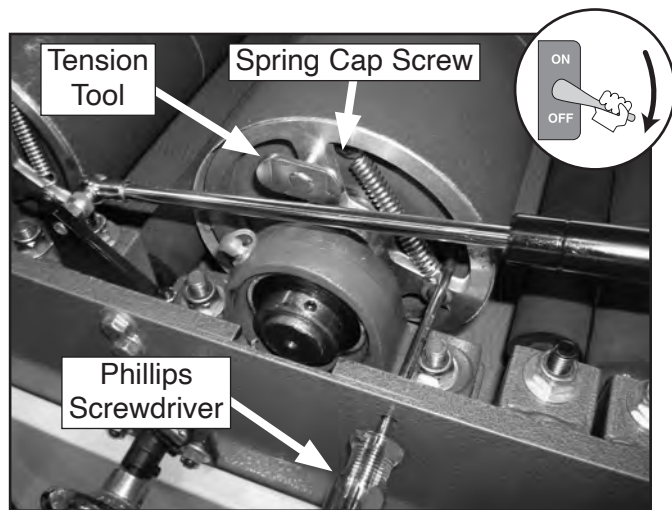

Figure 33. Tension wheel components.
2. Lift top cover and place Phillips screwdriver through right side of frame and into side of drum, as shown in **Figure 33**.
3. Rotate sanding drum to stretch tension spring. Fit end of spring tension tool shaft through hole in tension wheel arm (see **Figure 33**) and into head of cap screw securing spring.